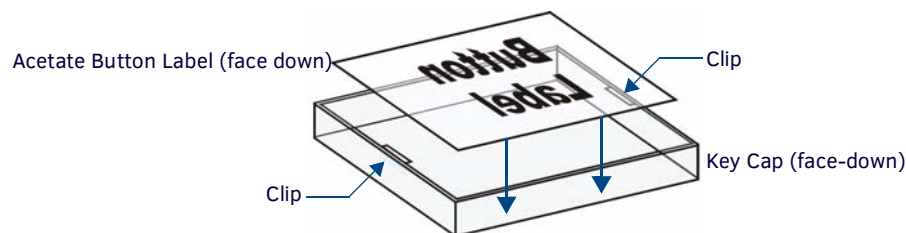

FIG. 10 Placing a Button Label inside a Key Cap
2. Place the Key Cap face-down, and insert the Button Label into the bottom of the Key Cap (FIG. 10).
- Orient the Button Label inside the Key Cap so that the two clips are located on the left and right sides of the readable text on the Button Label, as indicated in FIG. 10.
- Be sure to place the Button Label face-down inside the Key Cap (see FIG. 10), otherwise the label will be seen in reverse once the Key Cap is installed.